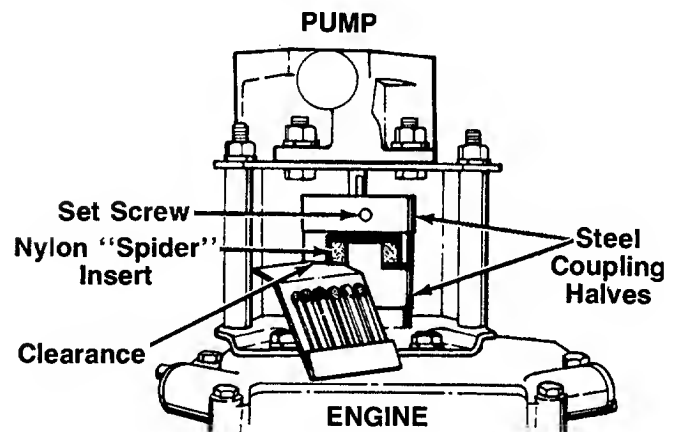

FIGURE 12.—Bottom View
7. Adjust the two coupling halves (steel) so there is between .010" and .060" clearance between the two halves (at least the thickness of a matchbook cover, up to 1/16" maximum). See figure 12. Tighten the set screw in the coupling half on the pump shaft.